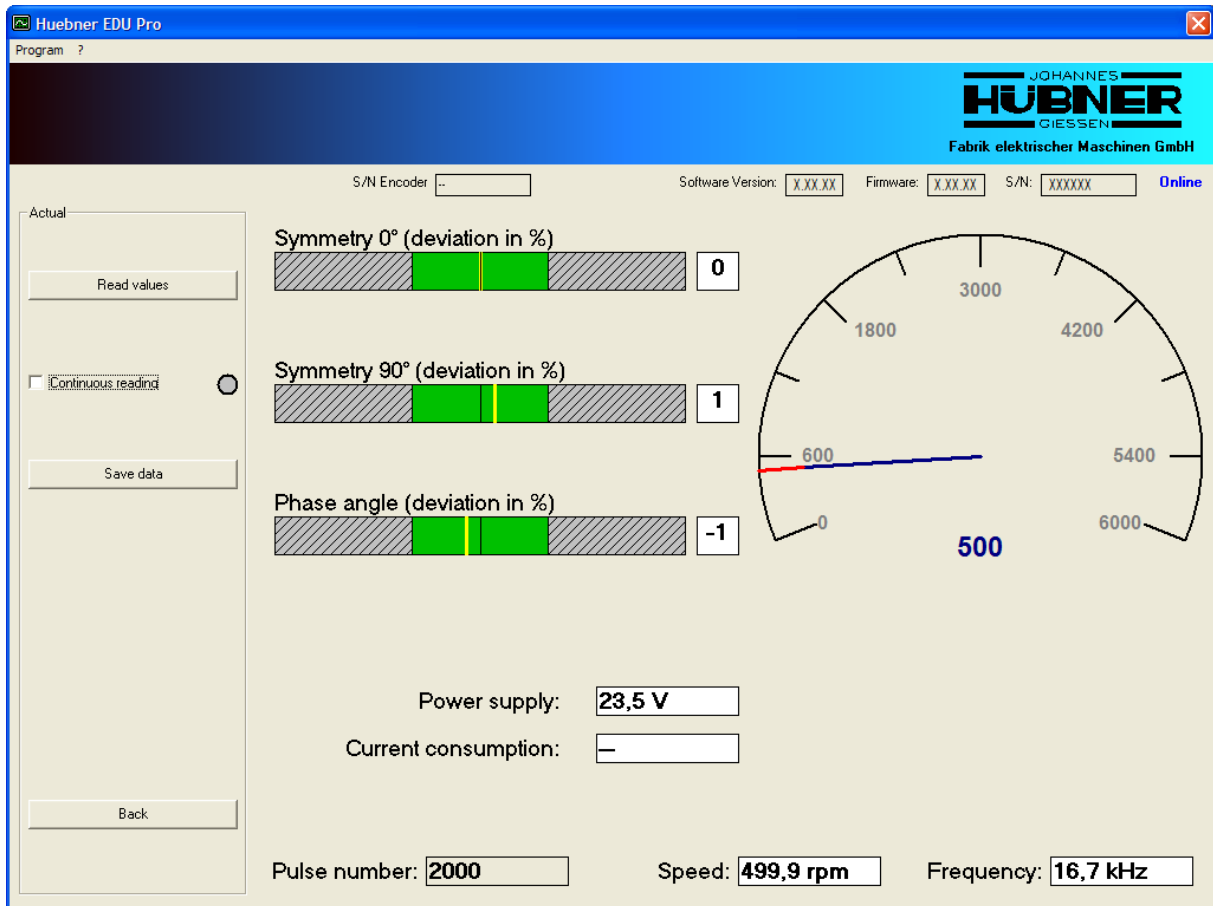

Fig. 15: Current
4. – “Current” button (ONLINE measurements). Continue Fig. 15.